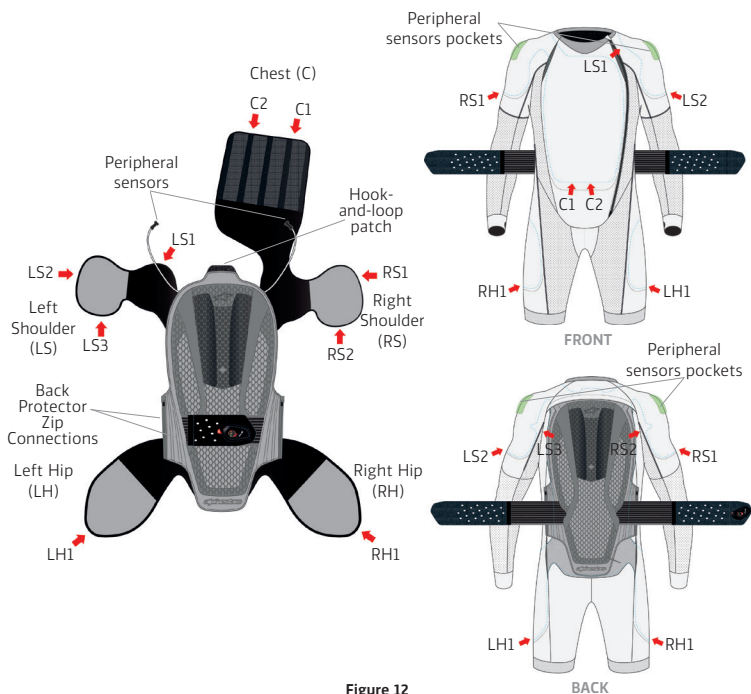
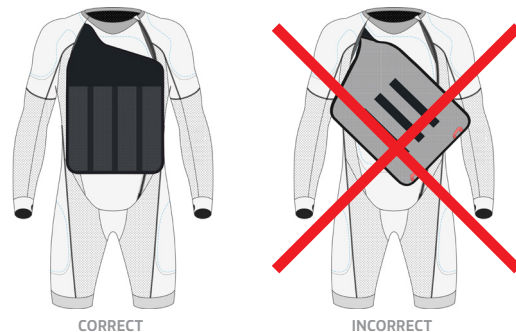

Figure 12
Figure 13
The Base Layer (1) can be washed according to the instructions reported on the care label. Before washing, remove the Back Protector (7) and the Airbag (5) from the Base Layer (1), unzip the Back Protector Zip Connections (8) and detach the hook-and-loop patches on the neck. Remove the Peripheral Sensors (11) positioned on the back of the shoulders by opening the hook-and-loop pocket and removing the component from its seat. Before removing the Airbag (5) from the Base Layer's (1) pockets, detach the clips inside each pocket as detailed in Figure 12.
After cleaning the Base Layer (1), proceed with the correct reassembly of the Airbag (5) on the Base Layer (1) following the instructions below and Figure 12:
1. Attach the hook-and-loop patch present at the upper part of the Airbag (5) with the corresponding patch present on the Base Layer (1)
2. Close both the Back Protector Zip Connections (8)
3. Reposition the Peripheral Sensors (11) on the back of the shoulders. To do this, access the sensor pocket through the appropriate opening, open the hook-and-loop pocket, place the sensor in its seat and close the hook-and-loop pocket so that the sensor is fixed. Note: the direction in which the sensor is positioned at the point of its seat is not important, but it is essential that the sensors coming out on the right and left side of the Back Protector (7) are placed, respectively, on the right and left shoulder, and not vice versa.
4. Insert each protective area of the Airbag (5) inside the corresponding pocket taking care to position the Airbag (5) correctly (avoiding twisting or folds) and to anchor the Airbag (5) using all the clips available on the Base Layer (1). There are 9 clips in total and are divided as follows: 3 clips on the Left Shoulder (LS) area, 2 clips on the Right Shoulder (RS) area, 2 clips for the Chest (C) area, 1 clip for the Left Hip (LH) area and 1 clip for the Right Hip (RH) area.
IMPORTANT! Particular attention must be paid during the insertion of the region of the Airbag (5) that protect the chest area to avoid twisting the narrower region passing on the right shoulder. The obstruction of the canal could compromise the correct inflation and therefore the protection of the Airbag (5) in the chest area (see Figure 13).